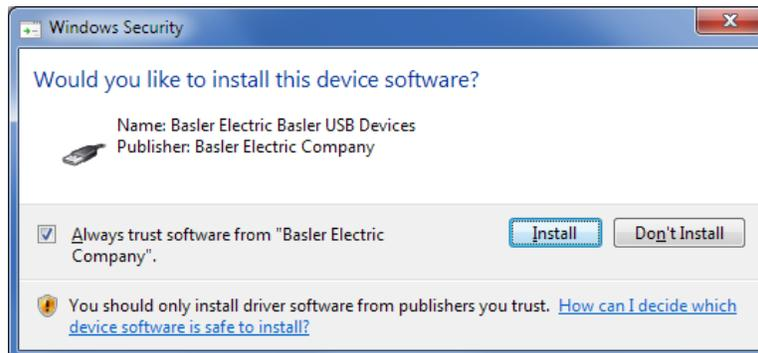

Figure 62-8. Windows Security
Step 7. If a Windows Security window (Figure 62-8) appears, click Install.